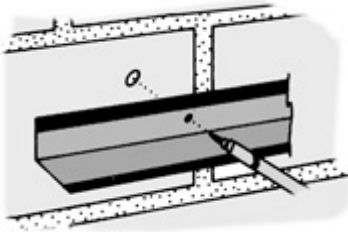

FIG. 6 - Fasten the wall angles securely to the wall at all points.
- Fix the wall angles securely to the wall at all points. Nail them firmly to studs, or use screw anchors or other masonry fasteners on brick or masonry walls (Fig. 6).